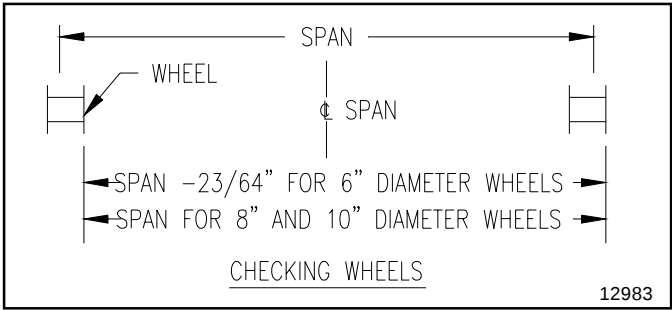

Figure 4.
3. To check the distance between the trucks, push all truck wheels toward the center of the span. The distance from the outside of the wheel on one side of the span to the inside of the wheel on the other side of the span should equal the span length for the 8" and 10" diameter wheels. For the 6" diameter wheels this dimension should be the span length minus 23/64". See Figure 4. The tolerance on these distances is $\pm 1/32$ ".